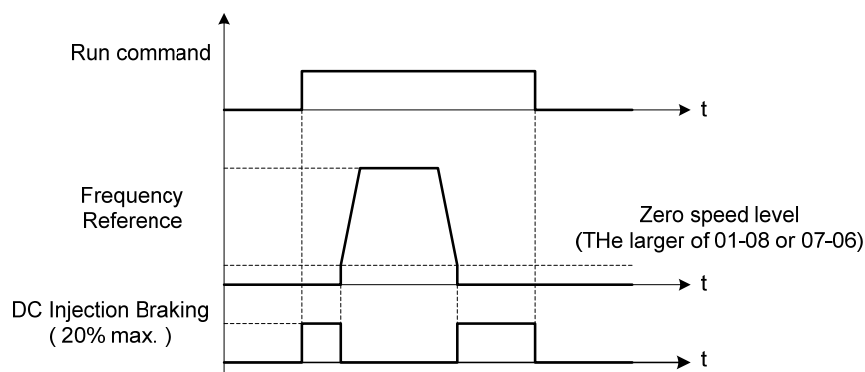

Figure 4.3.97 Zero-speed braking operation
- . Refer to Figure 4.3.97 for details of the zero-speed braking operation. DC braking 07-07 will be limited to 20% of inverter rated current.